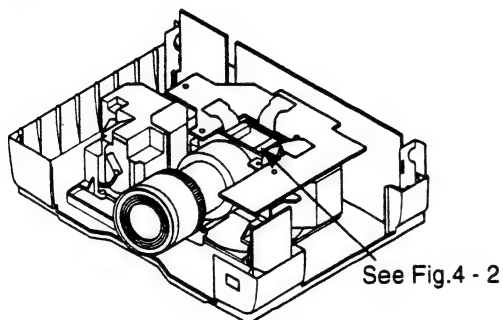

Fig.4 - 1
- ① Apply heat-running for 10 minutes or more before adjustment.
- ② Input a cross-hatch signal to the RGB input terminal with a timing signal of XGA VESA (60).
- ③ Project about a 40" size image and adjust H.PHASE so that the vertical lines of cross-hatch pattern are clear.
- ④ Loosen 2 screws ③ of both the R and B panel's metal fittings. (See Figs.4 - 1 and 4 - 2.)
- (Note) Do not loosen screws ③ too much. If they are loosened too much, the convergence may drift when they are tightened.